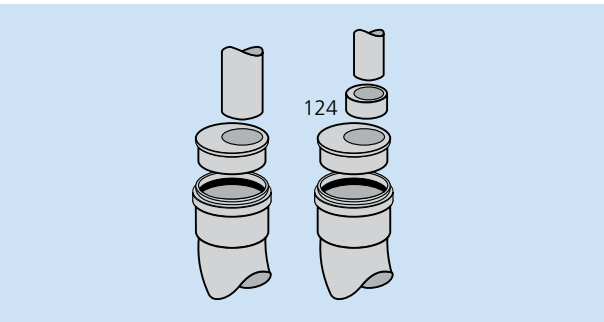

Fig. 26
- 82mm Soil Pipe to 110mm Underground Pipe (Fig. 26)